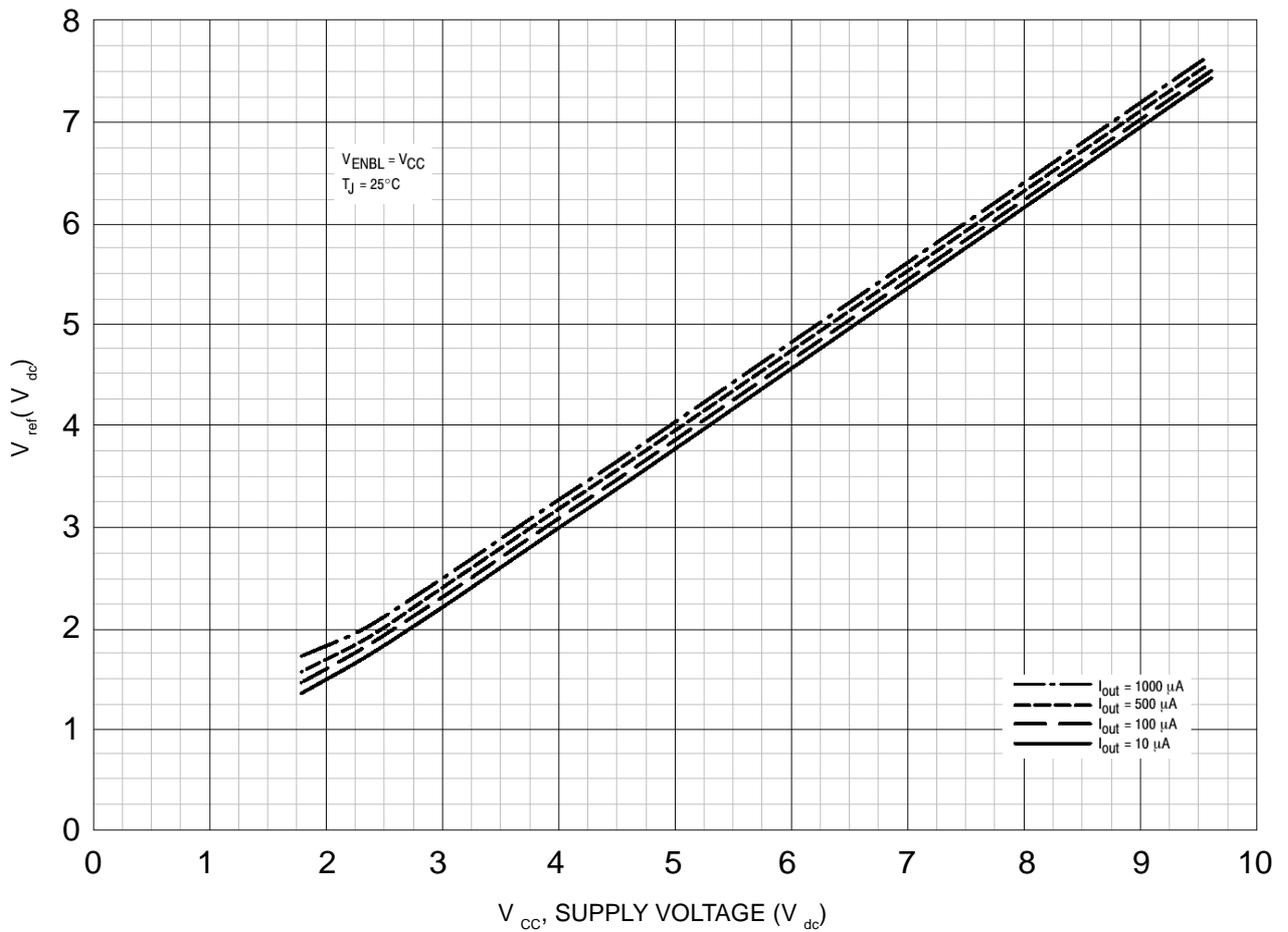

Figure 1.  $V_{ref}$  versus  $V_{CC}$  @  $I_{out}$
See Figure 1
- Step 4: From Figure 1, read Vref for VCC and Iout calculated.
- Step 6: From Figure 1, read  $V_{ref}$  for  $V_{CC}$  &  $I_{out}$  chosen